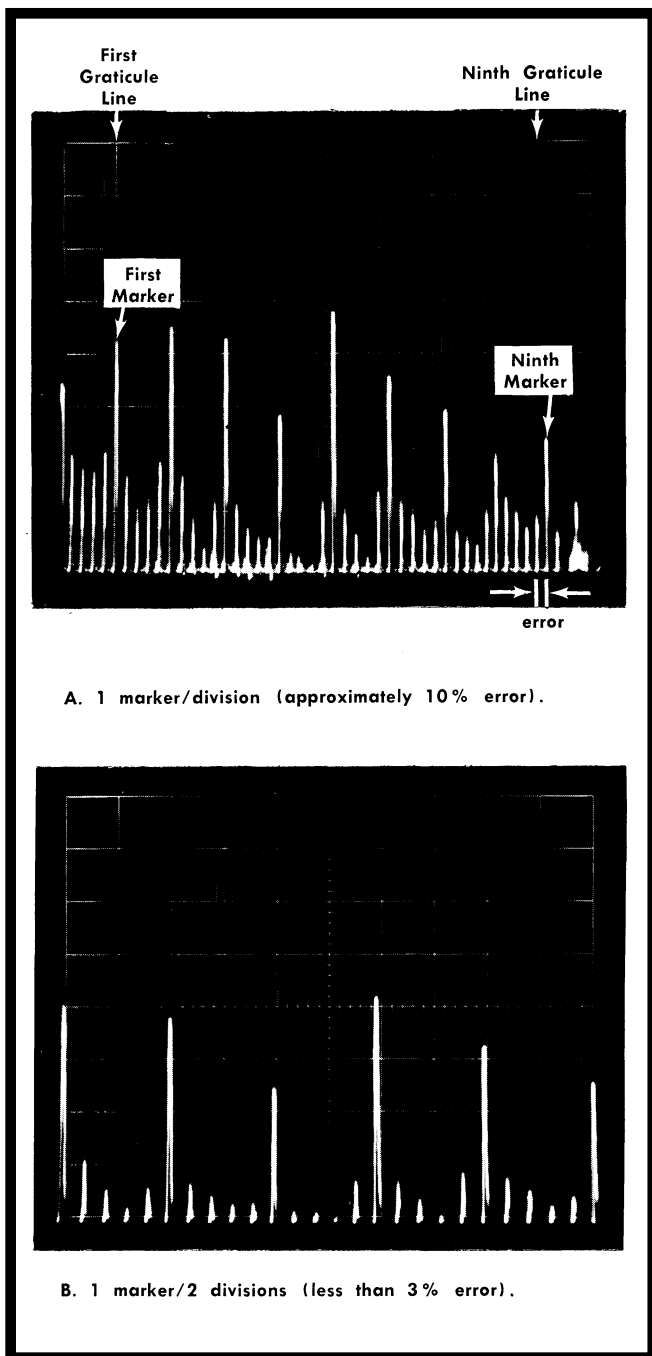

Fig. 5-2. Measuring dispersion accuracy.
a. Requirement—Dispersion accuracy for the MHz/DIV ranges is listed in Table 5-2. IF CENTER FREQ coarse control range should equal or exceed ± 25 MHz from its centered (000) position. Dispersion accuracy and display linearity must remain within the listed specifications of Table 5-2 to the $+$ and $-$ 25 MHz positions of the control.
e. Check the dispersion accuracy and linearity for each MHz/DIV setting of the DISPERSION selector as listed in Table 5-2. (See Figs. 5-2 and 5-3.) The Horizontal POSITION control or the IF CENTER FREQ control may be used to align the prime markers to the graticule divisions. As the DISPERSION is decreased, the RESOLUTION control should remain in the coupled position.